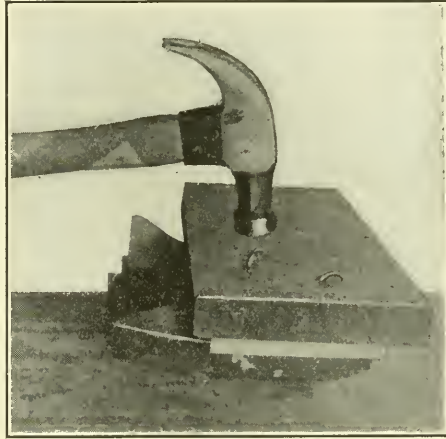

Fig. 175
60. Clinching.—For good work nails made expressly for clinching should be used, though for rough work any nail that can be bent without breaking will do. Drive the nail through, hold a hammer or piece of metal against the head, and strike the projecting point with light, slanting blows so as to curl it over gradually to one side. As it bends, strike more directly downward until the hooked end is embedded in the wood. Clinch across the grain of the wood. The nail can be driven through a little way, the point bent over, the nail then driven in to the head, and the clinching finished by striking the bent end so that it is sunk in the wood, but without crushing the fibres (Fig. 175). Another way is to drive the nail through against a heavy hammer or other solid piece of metal, held on the other side, so that the point is bent over until buried in the wood.